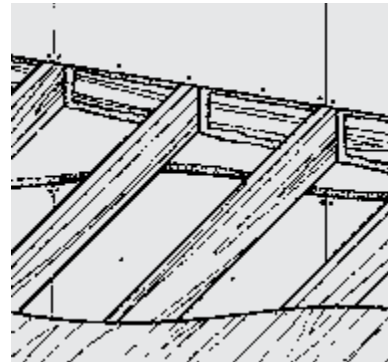
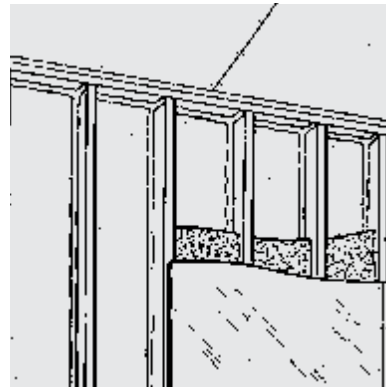
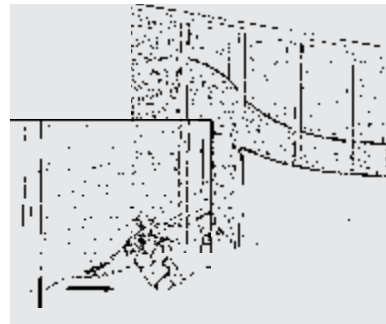

Figure 2: Sealing wall-ceiling joints
Figure 6: Sealing stud wall cavities ("picture framing")
Figure 7: Flash and batt
See Figures 2, 3, 4, 5, 6 and 9 for examples of air-sealing applications where either **Froth-Pak™ Foam Sealant** or **Froth-Pak™ Foam Insulation** may be used. Some applications may require an ignition barrier to meet code requirements. **Froth-Pak™ Foam Insulation** can be used as both an insulation and an air sealant, helping reduce energy loss in both of these ways. See Figures 7, 8 and 10 for examples of **Froth-Pak™ Foam Insulation** applications.
- Wall-ceiling joints (Figure 2)
To simply air seal cracks, crevices and penetrations within cavities, use **Froth-Pak™ Foam Sealant**. As a best practice, spray **Froth-Pak™ Foam Sealant** in a "picture frame" fashion in the wall cavity before installing batt insulation to block out drafts and enhance insulation performance (Figure 6). Use **Froth-Pak™ Foam Sealant** to air seal wall-ceiling joints. See Figure 2.
Flash and batt (1/2"-1" [13 mm- 25 mm] foam thickness) is another effective technique to insulate and seal the wall with **Froth-Pak™ Foam Sealant**. See Figure 7.
Froth-Pak™ Foam Insulation is an effective insulation and air sealant for stud wall cavities (Figures 7 and 8). A thermal barrier is required to separate **Froth-Pak™ Foam Insulation** from the interior.